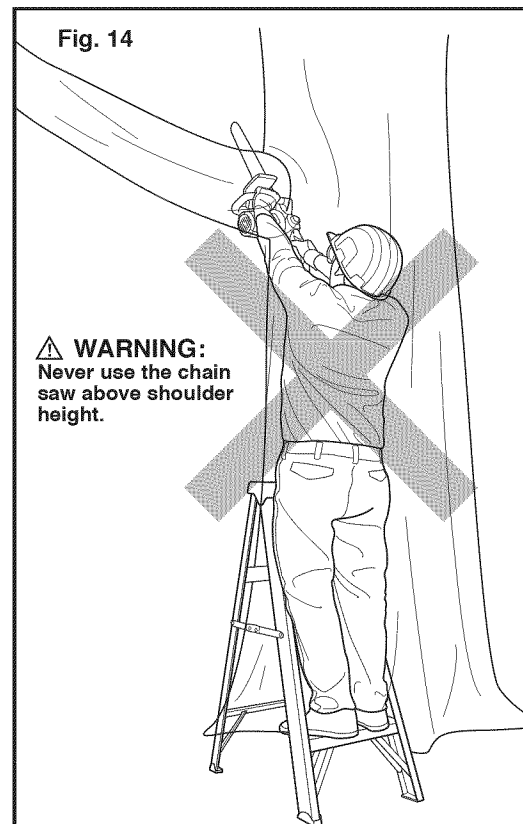

Fig. 14
- Do not operate the chain saw with arms fully extended or attempt to saw areas which are difficult to reach, or on a ladder. Never use the chain saw above shoulder height. (See Fig. 14)